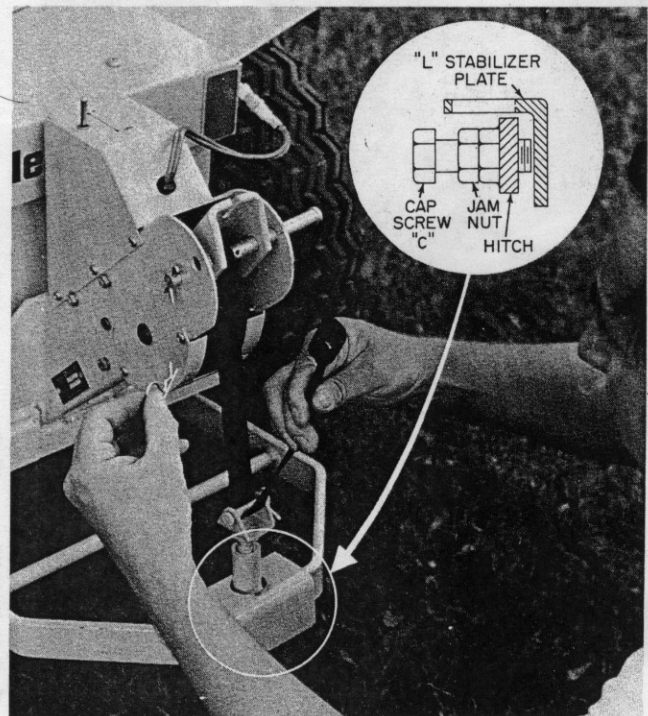

Fig. 2
REAR ELECTRIC LIFT (See Figure 2)
3. Pass the free end of the lift strap under the lift clevis pin of the sleeve hitch as shown in Fig. 2.
1. Loosen the jam nuts and back out cap screws, "C", shown in Fig. 2.
When drawing rear attachments having a heavy draft which makes steering difficult, such as the moldboard plow, loosen cap screws "C" shown in Figure 2 by loosening their jam nuts and then the screw. This allows the attachment to "sway" on the hitch. A rigid mounting is provided when the screws are tight.